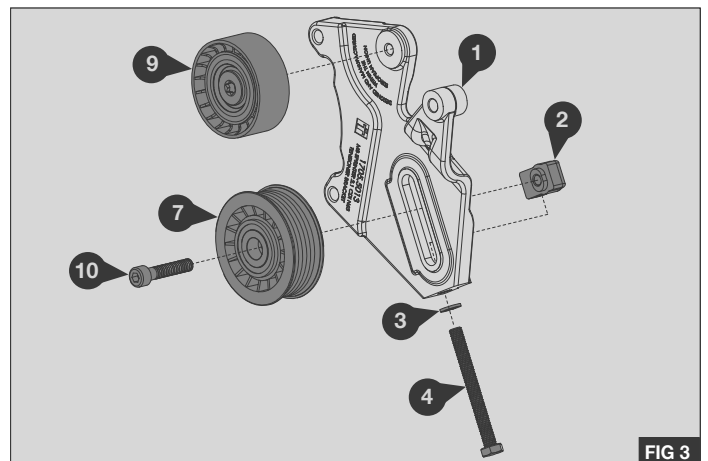

FIG 3
1. Mount the original idle pulley ⑨ previously removed onto the tensioner bracket ① in the position shown - Fig 3
2. Torque bolt ⑨ to 25Nm / 18lbft using a calibrated torque wrench.
3. Mount the supplied idle pulley ⑦ on to the tensioner bracket ① using bolt ⑩, draw bolt mounting block ②, washer ③ and M8 x 80 bolt ④ in the position shown. Leaving the idle pulley tensioner assembly loose - Fig 3.